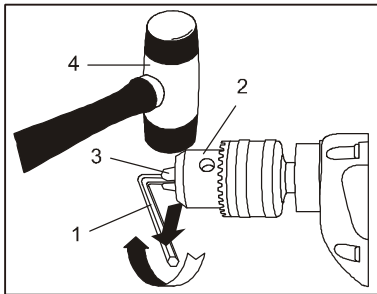

Fig.10
2. Insert a 5/16" or larger hex key (1) into the chuck (2) and tighten the chuck jaws securely. Make sure each of the three chuck jaws (3) is seated on the flat surfaces of the hex key (Fig. 10).
3. Tap the hex key sharply with a mallet (4) in a CLOCKWISE direction. This action will loosen the screw in the chuck for easy removal.